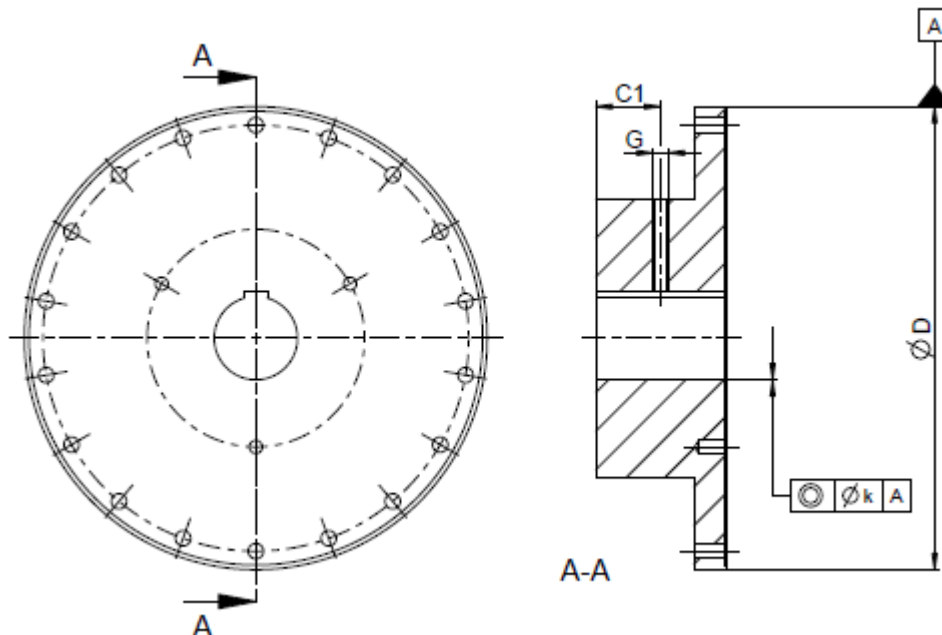

Figure 7.6: Specifications for the form and positional tolerance of the bore and position of the keyway nut
- the form and positional tolerances in accordance with DIN ISO 286 are adhered to (see figure 7.6).
If the hub is to be designed with a keyway nut, it is preferably to be inserted between the threaded bores like in figure 7.6.